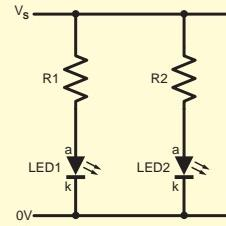
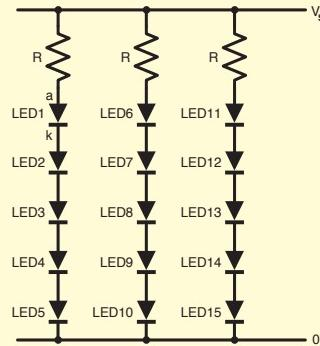

Fig.6. Two LEDs with separate current-limiting resistors
Fig.8. Driving LEDs in series/parallel groups
Fig.6 shows two LEDs with separate current-limiting resistors; we can still get problems with variation between individual devices resulting in varying brightness. An example will help explain this. Again, using kolbep's data, assume LED1 has a forward voltage drop of 2V at a forward current of 20mA. If the supply ( $V_s$ ) is 5V we have  $R_1 = 150\Omega$ , so that  $R_1$  drops 3V and we have 2V across LED1. If LED2 is also connected with  $R_2 = 150\Omega$ , but has, say, a forward voltage drop of 2.2V due to variations in individual device characteristics, then the current in LED2 will be 18.7mA. The difference in current may show up as a noticeable difference in brightness. The total dissipation in the two resistors is about 0.11W.
For a large number of LEDs, a compromise between parallel and series connection can reduce the need for a very large supply voltage. This is illustrated by Fig.8, where 15 LEDs are connected in three groups of five in series. For a 2V drop it should be possible to use a series connection of five LEDs from a 12V supply, which may be easier to organise than, say, 36V for a single chain. The voltage used should be sufficient to allow for all the LEDs to have the largest voltage drop indicated by their specification at the required brightness level. In this case, if we assume 2.2V is the worse-case voltage we need at least 11V.
The circuit in Fig.8 may suffer from brightness variation between groups. Hopefully, the variation in voltage drop for individual LEDs would be fairly random and each chain would have more or less the same average drop, in which case the brightness variation would be small.
The supply voltage must be high enough to cover all the LED voltage drops, plus the working voltage across the current source circuit. As long as this condition is satisfied, the actual LED voltage drops do not matter. Note that no ballast resistor is required. For a larger number of LEDs, they can be driven in groups from multiple current sources in a similar way to Fig.8, but with a better chance of the groups having even brightness.
*The description of the voltage-current relationship is wrong, in a capacitive circuit, the current leads the voltage by 90°. Later on he says (correctly) that the current peak occurs when the voltage is changing at its fastest rate, ie at the zero crossings. The correct relationship is shown in Fig.8 (not Fig.6) in which the label at the top of the waveform says 'V[vc1]' (not 'V[v11]' as in Fig.6).*